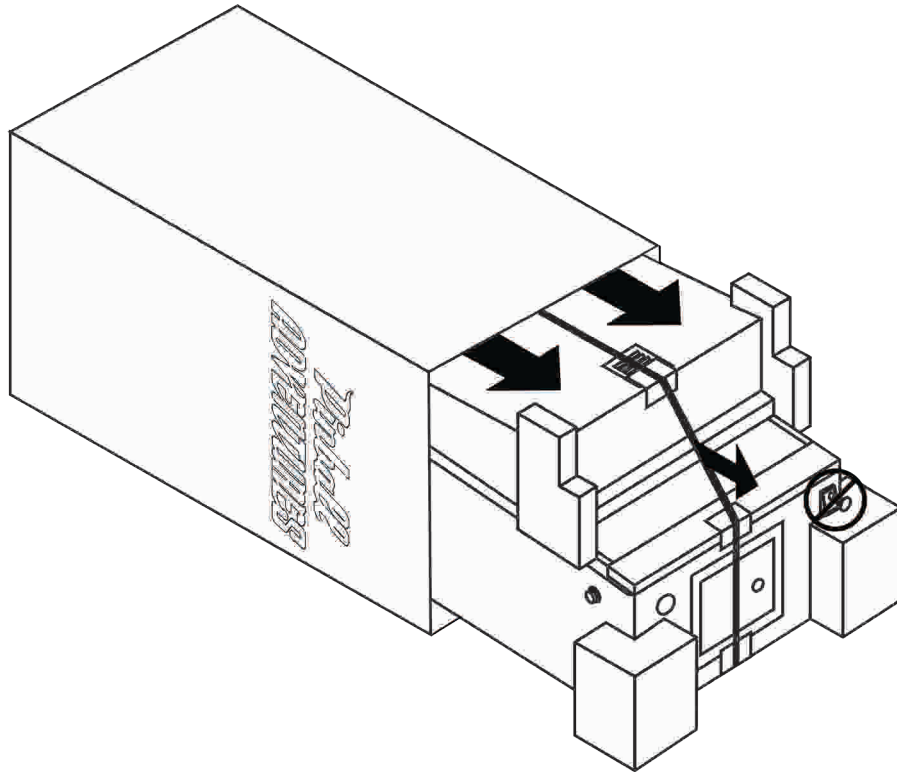

Fig. 2 Sliding the game out of the box
**IMPORTANT:** Do **NOT** cut the nylon strap. Instead, use the strap to slide the machine out from the box (Fig. 2). You can now recycle your shipping box.